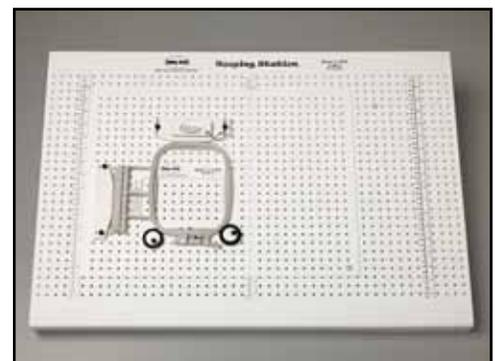

Fig. 2
3. Now that your hoop is in place on the Frame, you may mount the Preset Frame anywhere you want on the Hooping Station. You may orient the Preset Frame and, consequently your hoop, any way you wish, vertically, horizontally, upside down or rotated $\frac{3}{4}$ turn. YOU MAY EVEN ATTACH THE FRAME ON A TRUE 45 DEGREE ANGLE. Fig. 2